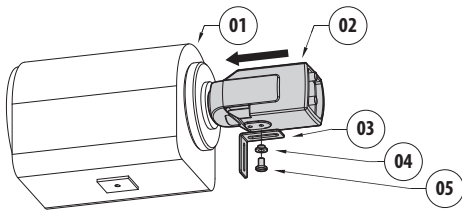

Fig. 9
It is possible to fasten the H-20 spacer (02) to the lens. Connect the camera and fasten the L-shaped bracket (Fig. 9, page 15). Interpose a plastic spacer (01) of the required thickness and fix it by means of washer and screw (03).